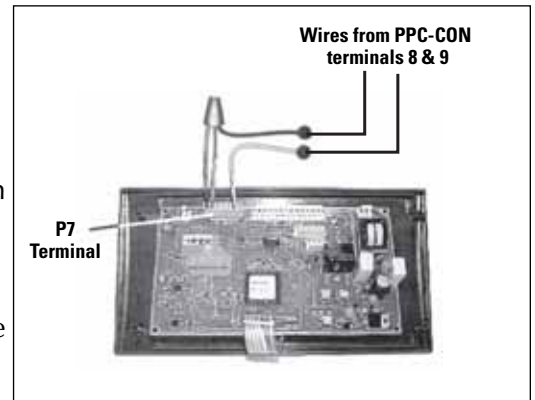

Figure 3-28 — Typical wiring connection for Raypak
- Connect the yellow/black wire to the wire from terminal 9 in the PPC-CON (see Figure 3-28).